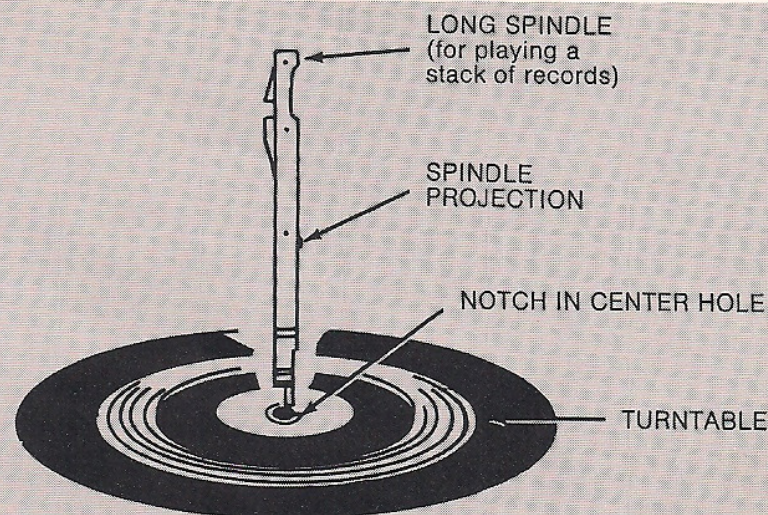

Figure 7
9. To reinstall long spindle: remove short spindle. Insert long spindle into turntable center hole so spindle projection (See Fig. 7) fits into notch on side of hole. Press firmly until spindle clicks into place.